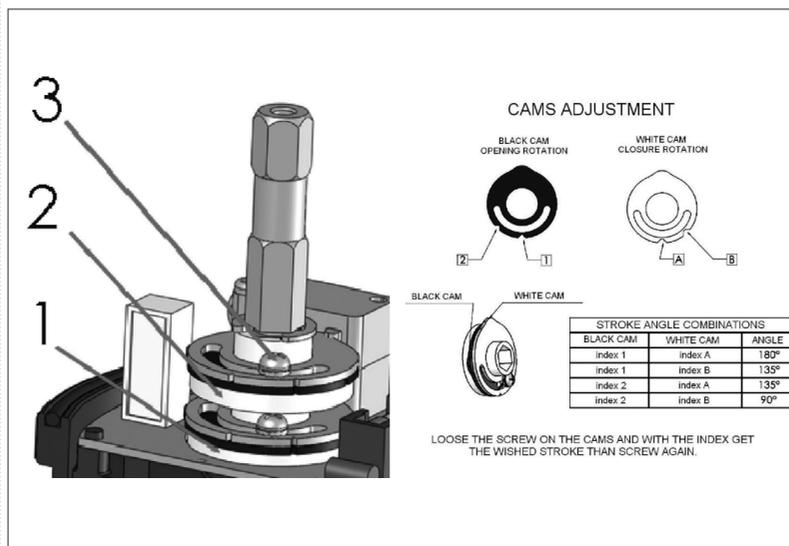

Fig. 6 . Cams of the limit switch
- Remove position indicator (B) by loosening the screws (C).
- Screw the fasteners (D) to remove the upper cover (A).
- Raise up the cover (A) carefully to avoid to damage the internal electric parts.
- Turn in the electric supply cable (diam. 6 ÷ 9 mm / 0,24-0,35 inch) by the properly bolts (E) (PG11).
- Proceed to connect the cable in its proper terminal-block (F) by looking at the wiring diagram (please also review the tag you find inside the cover) according to the different voltage (see 4.2 and 4.3).
4.6 Adjustment of actuator stroke (fig.6)